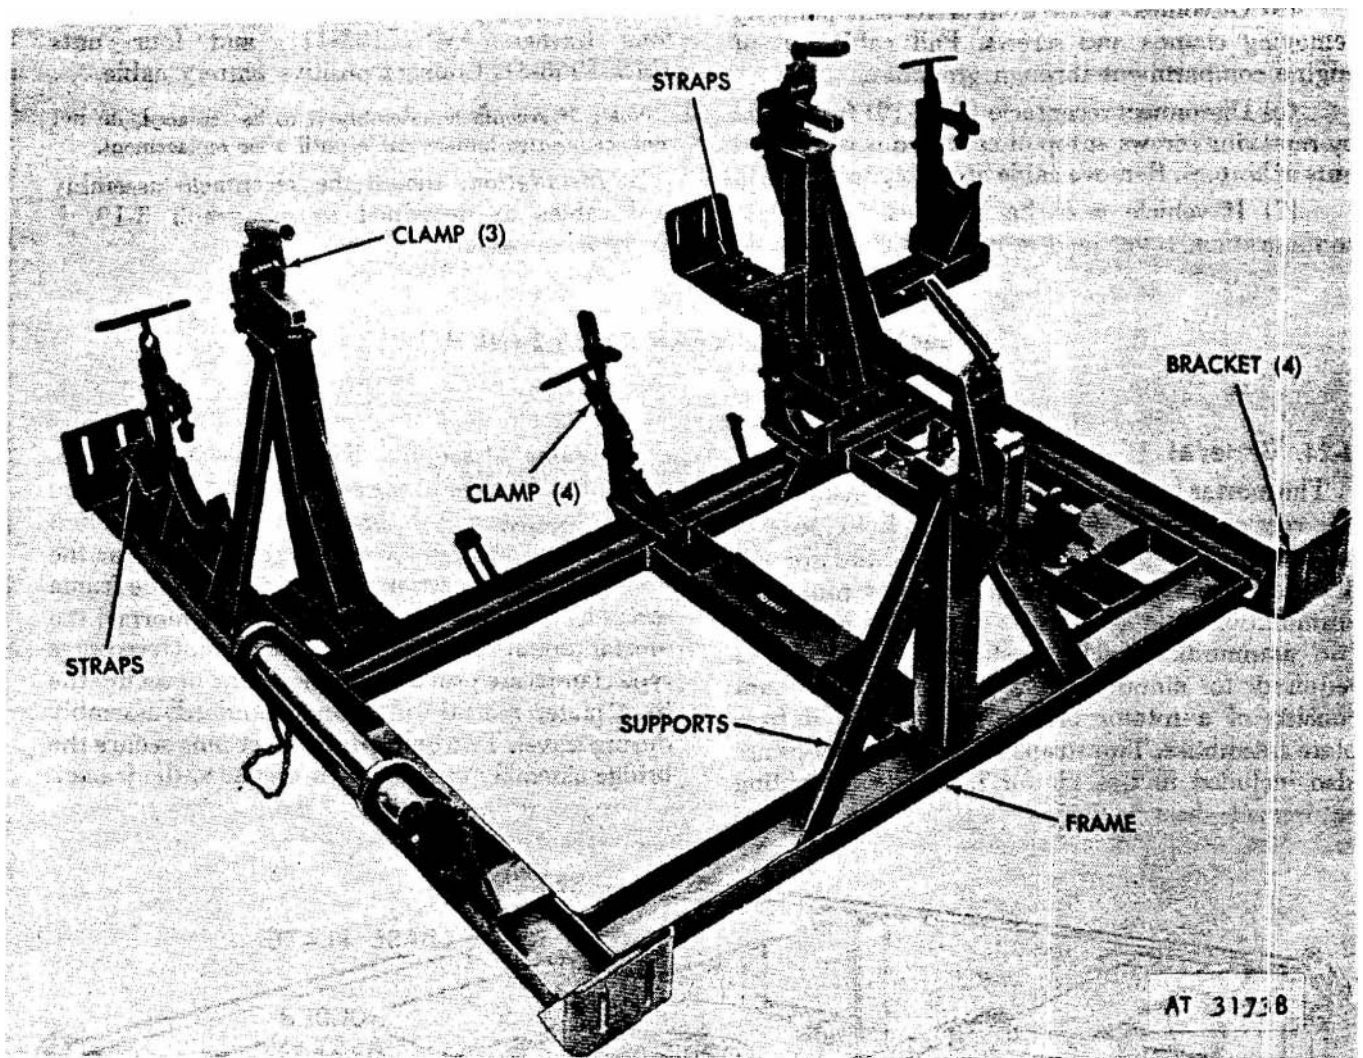

Figure 3-14. Frame assembly, mortar kit, 4.2 inch.
a. *Frame Assembly.* The frame assembly is secured to the floor of the carrier of the M561 cargo truck by means of brackets secured through adapters substituted for the cargo tie-downs at the lower part of the carrier seats (fig 3-14). The frame serves as a rigid storage facility for the mortar, the mortar mount assembly, and base plate. Overcenter type clamps are provided on the frame to secure the base plate, mortar tube, and standard assembly during travel. Two quick disconnect pins secure the bridge assembly of the mortar mount to the frame.